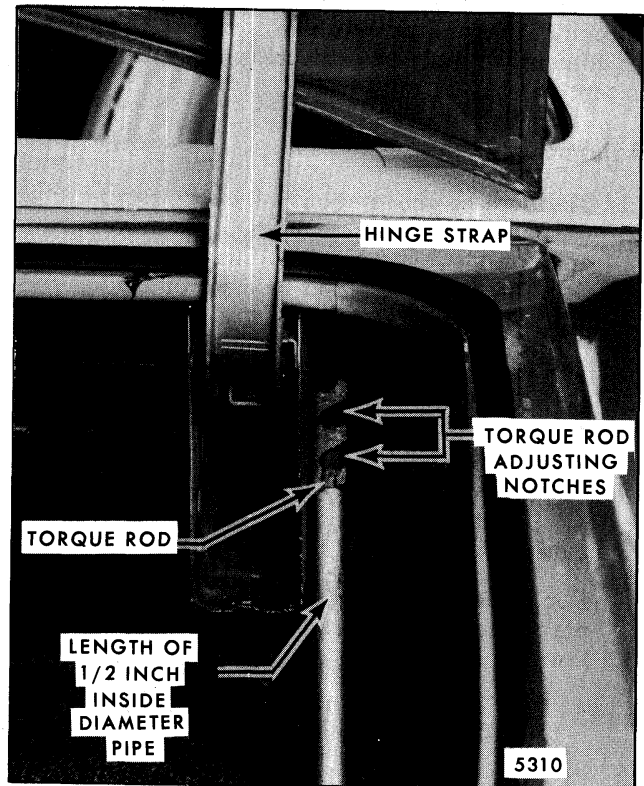

Fig. 7-41-Rear Compartment Torque Rod Adjustment - "A" Styles Shown, "B-C" Style Similar
- f. On all other "A, B, C" styles, except Cadillac "C" styles, use a length of 1/2" inside diameter heavy wall pipe (refer to Fig. 7-41).